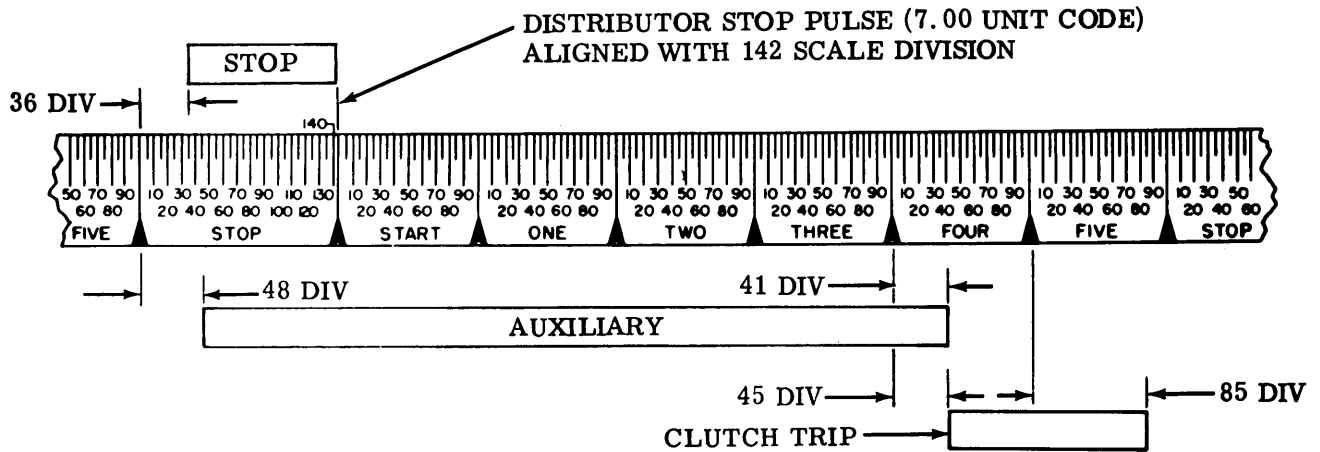

Figure 11 - Transmitter Auxiliary Contacts — 7.00 Unit Code
- (f) Pulse length requirements for 7.00 unit code at 390, 428 or 636 opm, and also 642.9 opm (75 baud) (Figure 11).